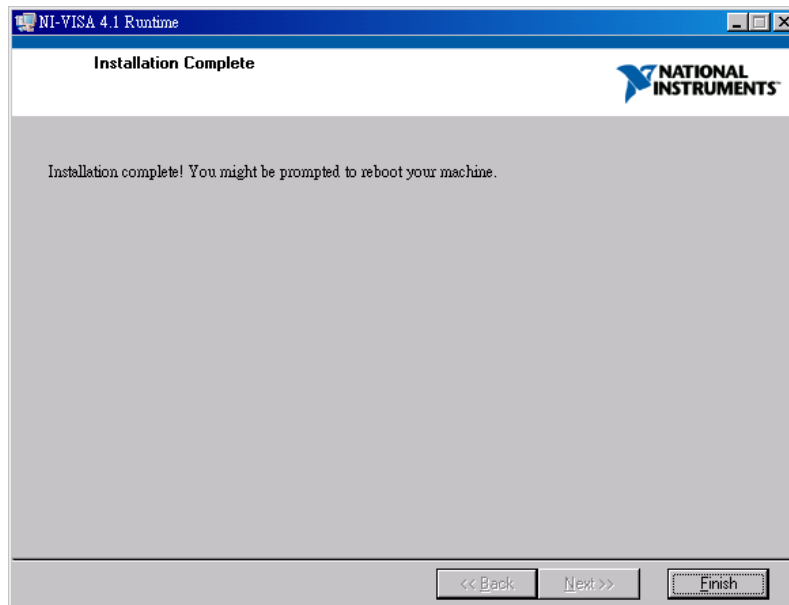

Figure 2-7 NI VISA Installation Complete Window
3. Click **Next** following the prompted message for installation. When all the procedures are done, the installation complete is shown as Figure 2-7.